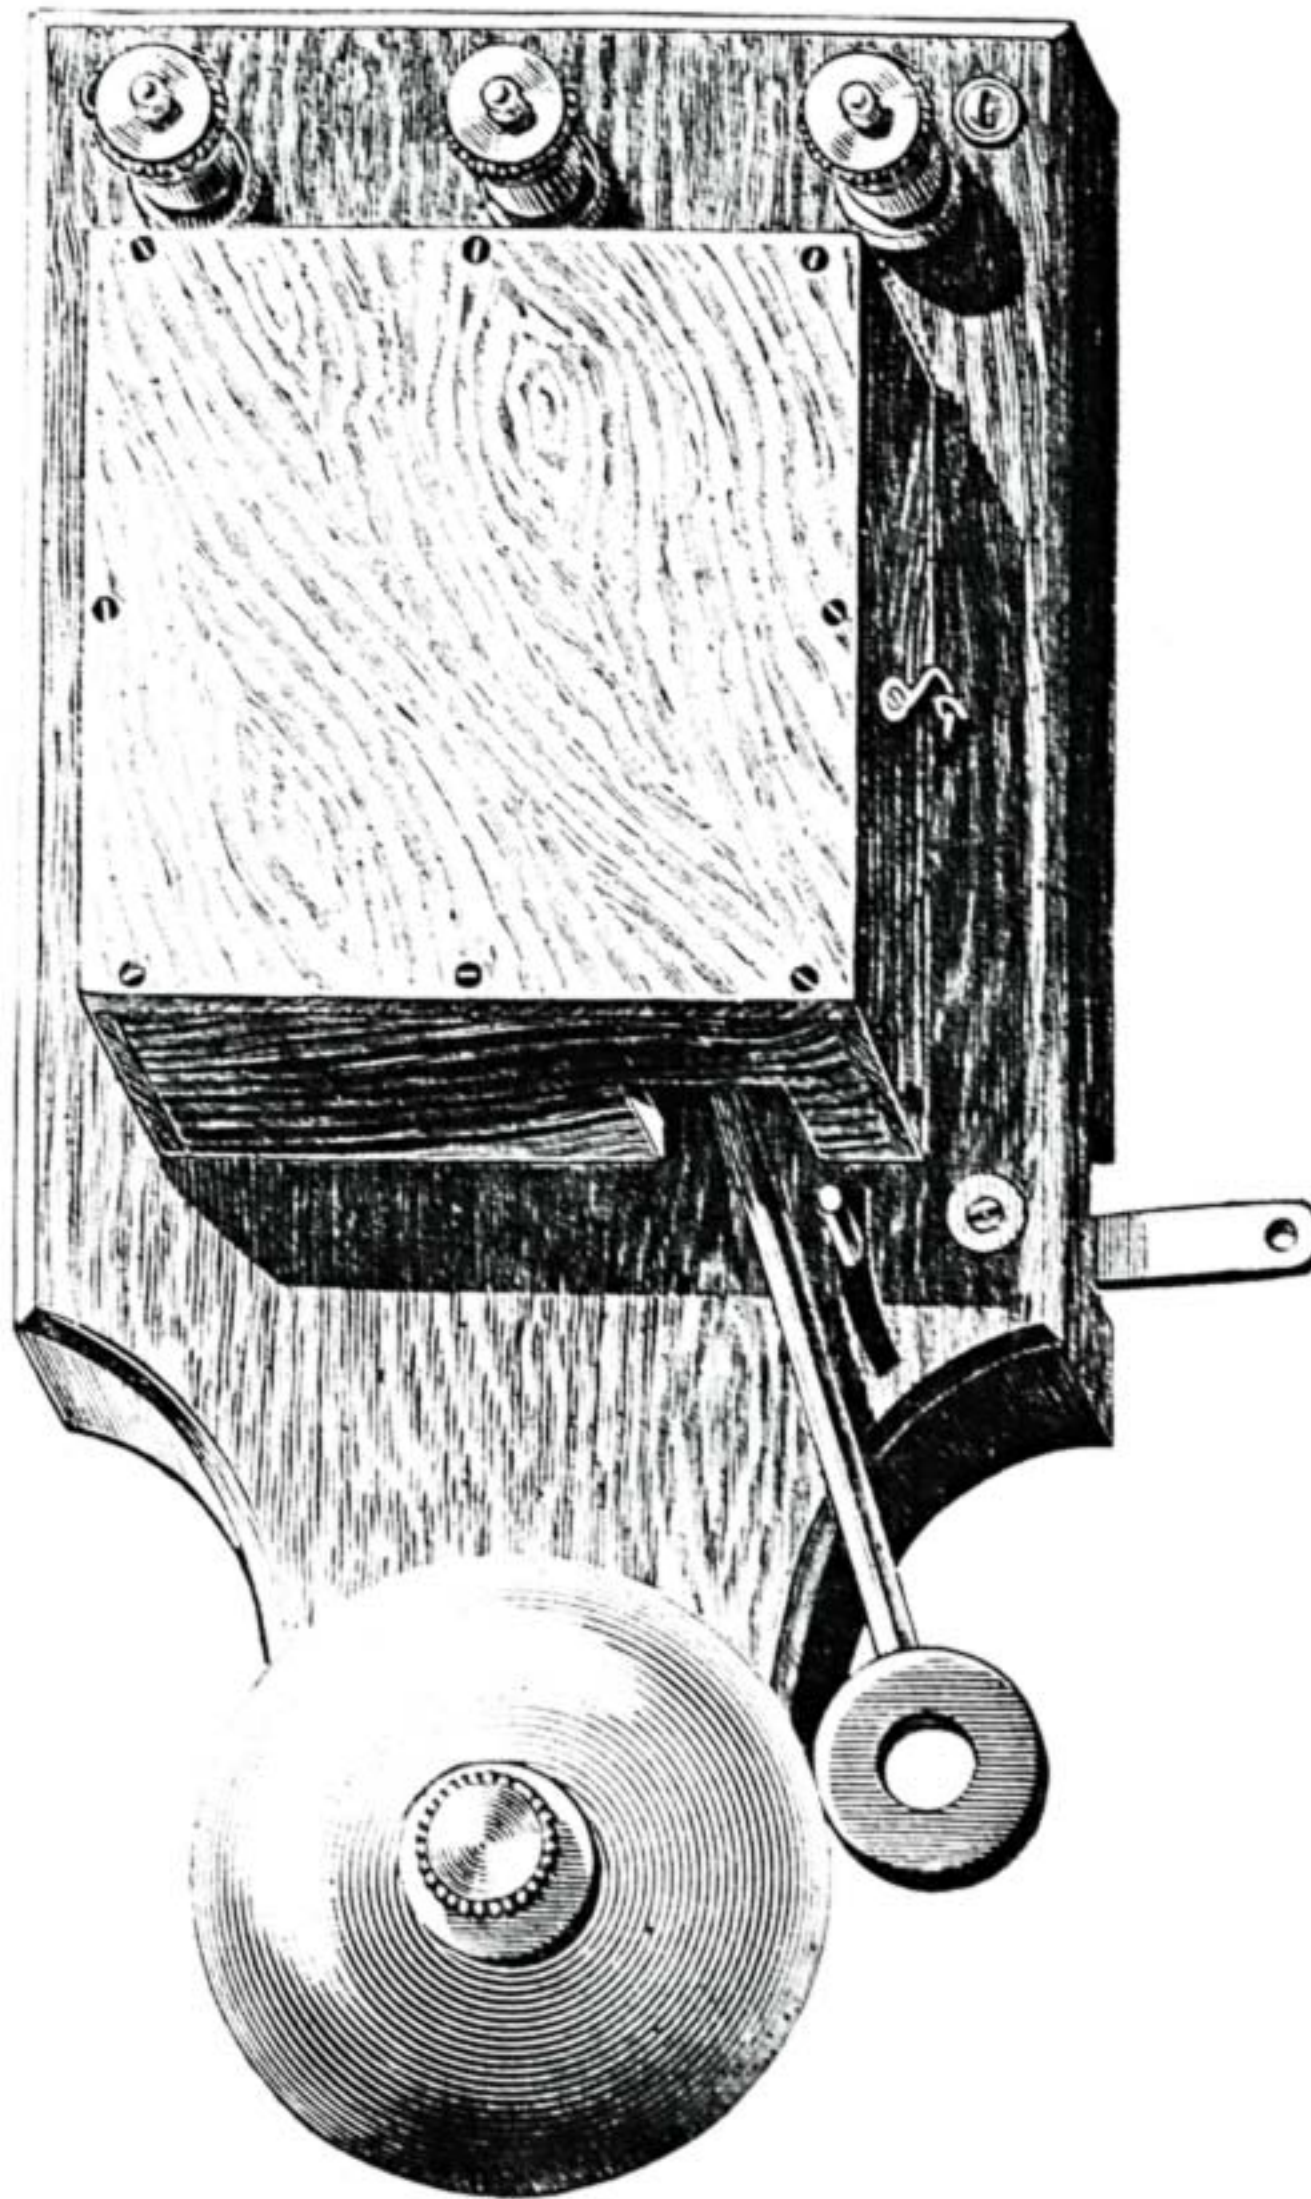

Fig. 28. —Mayfield's Alarm Bell with Automatic Relay.
*Automatic Relays.*—The action of an automatic relay will be more clearly understood by referring to the plan of one shown at Fig. 35. This relay is similar to that shown at Figs. 28 and 33. The trigger, L, of the relay is here shown on the face of the bell base, released from the catch, G, and drawn by the spiral spring into contact with a piece of brass, H. This piece of brass is connected by a wire leading up the back of the bell base (the course is shown by a dotted line) to the binding screw, B, and this is connected by a wire with one of the terminals of the battery, M. The other terminal of the battery is connected by a wire with the binding screw, A, and thus the local battery is thrown by the relay into short circuit with the bell, which is by this means rendered independent of current from the main line battery. When the circuit of the main line battery is closed by the act of opening a window or door placed in circuit, the current passes from A to D, then through the magnet coils to E, F, by the armature spring, to the contact post, K, then to C, and back to battery. As the current traverses the magnet coils, their cores attract the armature, and with it the hammer shaft; this movement causes the catch, G, to slip away from the end of the trigger, and the spiral spring at once brings it in contact with the small lug of brass, H. The lug, H, is connected with the binding screw, B, by a short length of insulated wire passing up the back of the base (its course is marked by a dotted line). The lever connects H with its pivot, I, and this is connected with the contact post. To render the action clearer, I must first explain that a wire is carried from A to D at the back of the base, and is brought up through a hole at D, and there connected with one end of the magnet coil wire; the other end of the wire is carried down through a hole at E, and connected to the metal frame of the bell by the screw, F. As the frame and the armature spring are connected together at S, the result is the same as it would be were the wire connected direct to S.
*Mayfield's Electric Alarum Bell.*—Fig. 28 shows an electric alarum bell, fitted with automatic relay, as manufactured by Messrs. Mayfield, Cobb, & Co., 41, Queen Victoria Street, London, E.C. The interior fittings of the instrument are similar to those shown on the plan, Fig. 35; but the relay is neatly placed in a recess cut out at the back of the base, as shown at Fig. 33. The fittings are well made, and are mounted on a metal
*The Cover for the Bell.*—As the working parts of an electric bell are very delicate, and liable to be injured by dust and damp, they must be protected from these by a suitable cover. This is usually made from the same kind of wood as that employed in making the base of the bell. It is really a little wooden box without a cover, turned upside down over the works. It is made out of  $\frac{1}{4}$ -in. wood, neatly put together with dovetail joints or mitred corners strongly glued, and is highly polished when finished. Holes or notches are cut to allow free working of the hammer shaft and lever of relay. The cover is secured to the base by two small brass hooks screwed to the sides, and engaging with two small brass staples fixed in the base. The top part of this cover is attached to the frame by small brass screws, in addition to glue, to give it greater strength; these screws are shown in Figs. 28 and 29. Two holes (bushed with brass eyelets) are drilled in the base close to the outside terminals, and the bell is hung by means of screws passing through these, or by pins, to a wall or a partition.